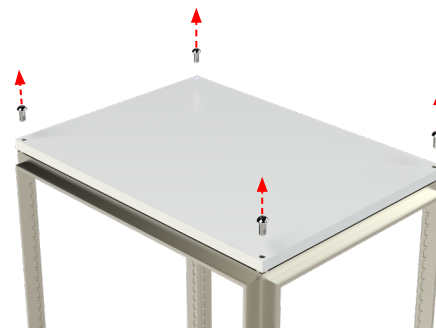

Figure 2
- Using an 8mm hex bit or Allen wrench, remove the four M12x20 hex socket screws located at the corners of the top element (Figure 2).